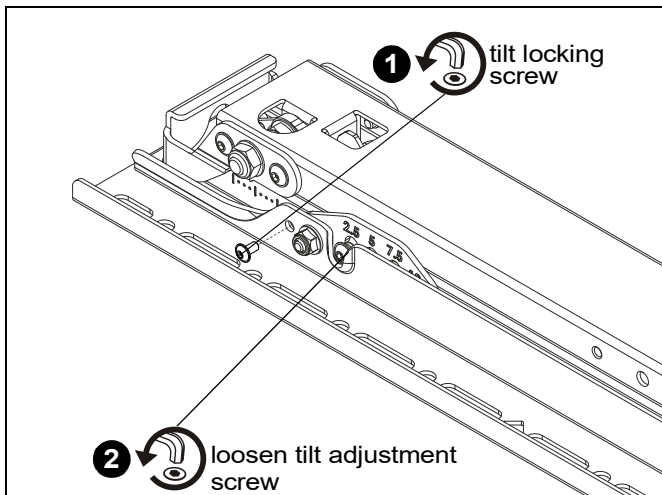

Figure 26
1. With display removed from mount, remove home tilt locking screws from interface brackets (A and B). (See Figure 26)
2. Loosen tilt adjustment screws on interface brackets (A and B). (See Figure 26)